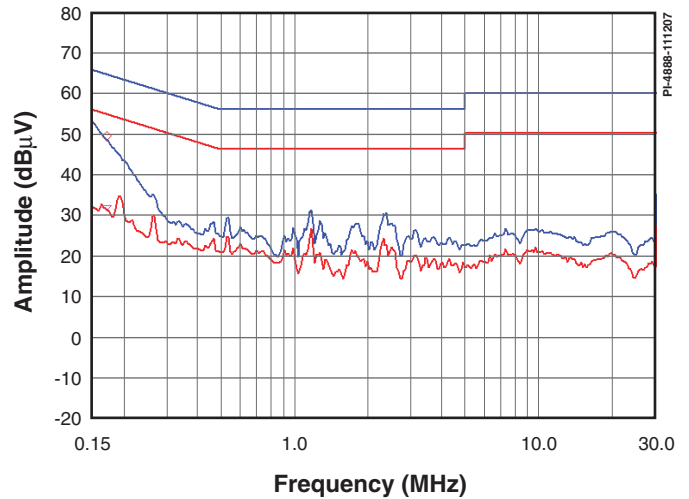

Figure 3. Worst Case Conducted EMI Measured at 230 VAC With Output Grounded.
- Meets CISPR-22/EN55022 B conducted EMI limits with >10 dB $\mu$ V margin (see Figure 3)